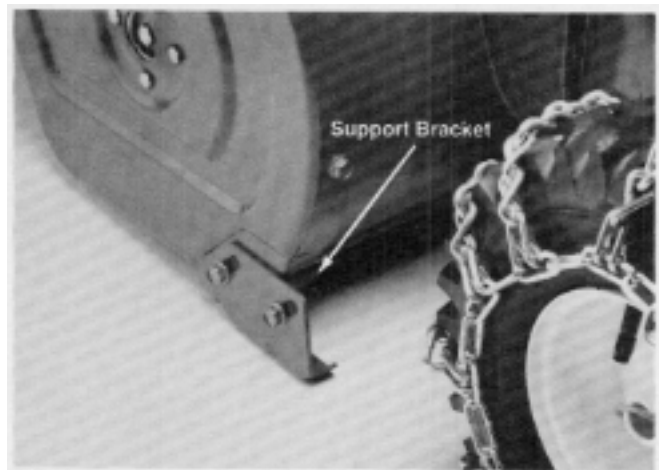

Figure 104
2. Install the skid as shown in Figure 104.